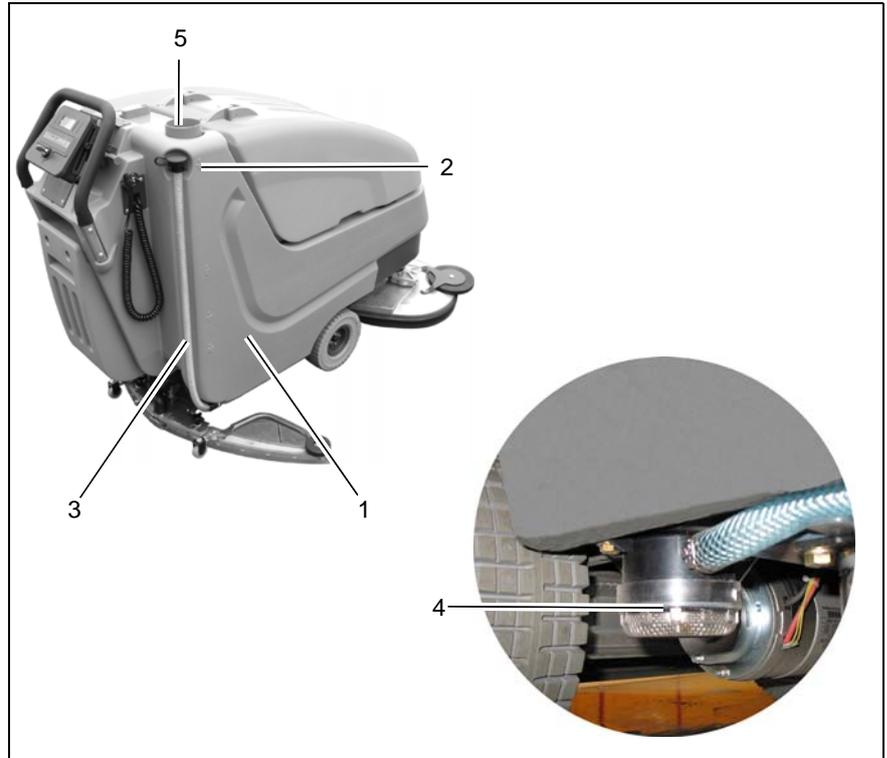

Fig.8
Fill solution tank (Fig. 8/1) before work or as required. Park vehicle on level ground. Open tank lid (Fig. 8/5) and fill tank up to the maximum (1/1 marker) (Fig. 8/2).
Alternatively, filling of the machine via quick coupling (Fig. 8/6) is available. Before doing so, connect the filling hose of the dosage unit and the quick coupling. The floater valve automatically closes after the maximum filling level has been attained.
Park vehicle such that the fill level hose (Fig. 8/3) is located above the drain aperture in the floor. Take fill level hose from holder and remove lid.
Check solution filter (Fig. 8/4) at weekly intervals and clean or replace if required.
1. Empty solution tank (Fig. 8/1) entleeren, see paragraph 5.5.2.